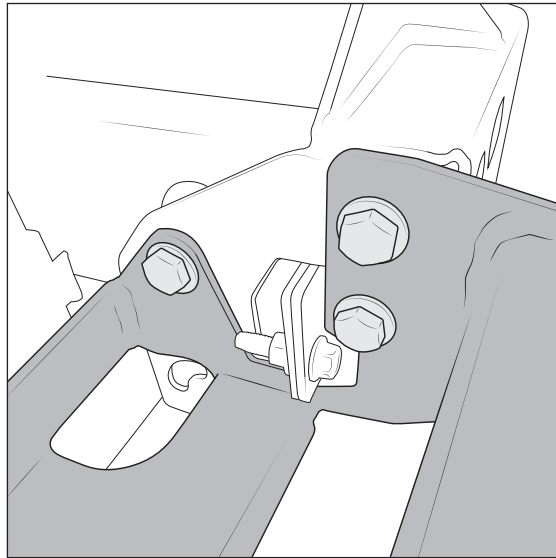

Figure 5: Driver-side shown
3. Install center section using three M12 bolts per side (fig. 5).